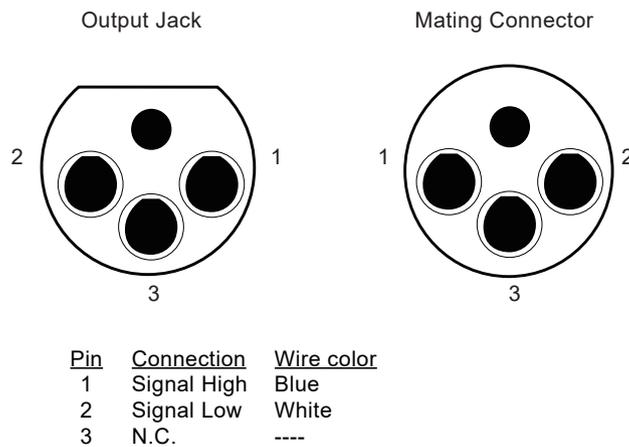

Figure 6-1 Pin-Out for the Output Jack and Mating Connector
Figure 6-1 shows the pin-out for the high-voltage output jack and its mating connector. Determine the conductor length needed to connect the transmitter output to the external signal protection relay and ground control unit assemblies. Use a minimum of 18 AWG conductors rated minimum 600 V, minimum 80°C, and the colors specified in Figure 6-1.
9. Figure 6-1 shows the output connector pin-out.